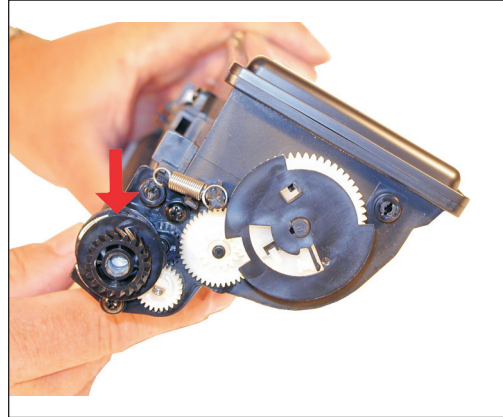

Figure 23
20) Install the coupler gear on to the shaft on the toner supply. Note that the gear and shaft are both keyed. See Figure 23